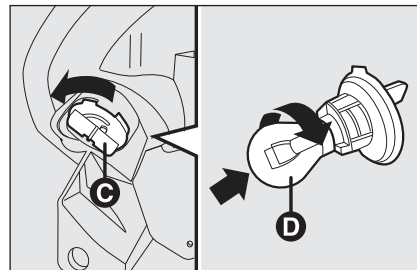

fig. 19/b
- remove the bulb holder cover **C**-fig. 19/b by turning it anti-clockwise;
- close the flap **B**-fig. 19/a and then turn the catch **A**.